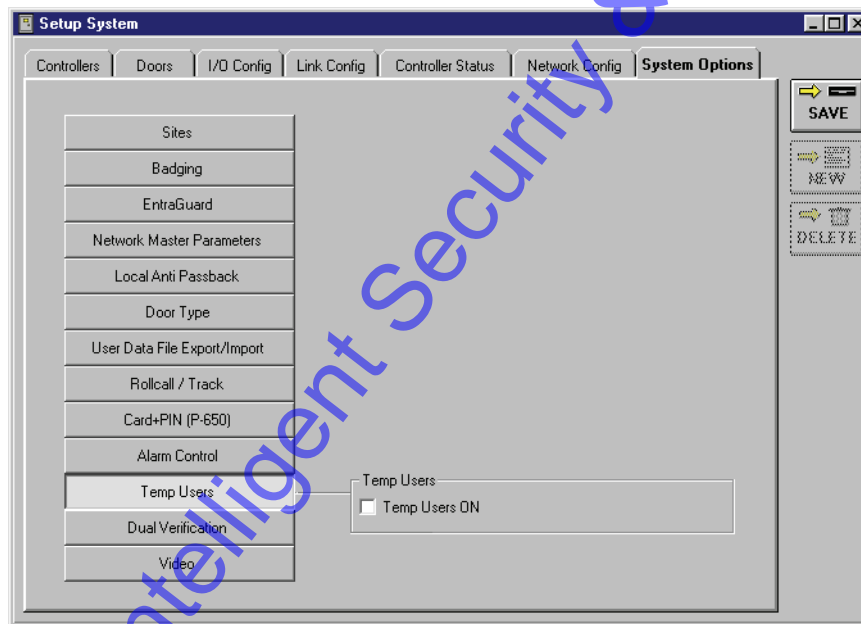

Figure 2-30: Temp Users Field
1. From the System Options tab, click on the  button. The System Options window will reveal the Temp Users field (see Figure 2-30).
2. If your application does not use Temp Users, verify there is **not** a check mark in the Temp Users ON box. This is the default value (see Figure 2-30).